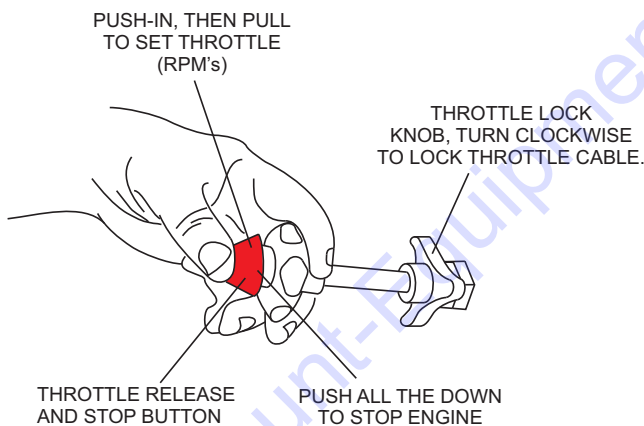

Figure 20. Throttle Control Knob (Mixer)
2. **PUSH** the "RED" button (Figure 20) on the throttle control and pull the round black knob about halfway out. Make sure that the throttle lock knob has been dis-engaged.